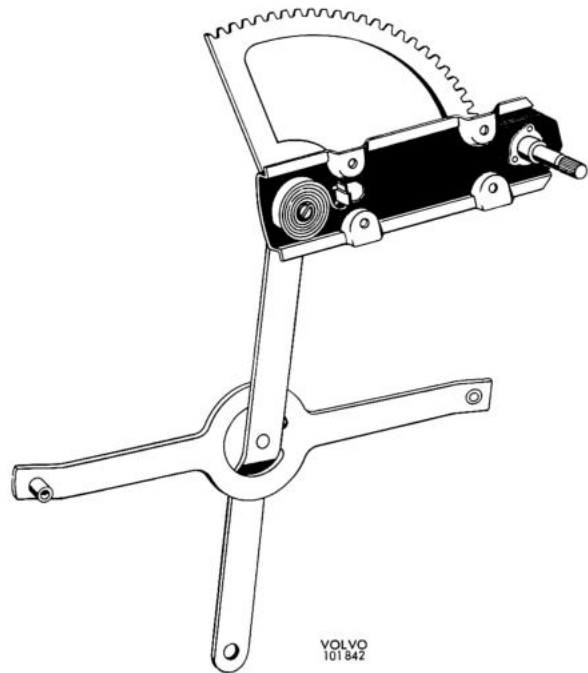

Fig. 8-17. Winding mechanism
6. Remove the attaching screws for the window winder, see Fig. 8-8, and remove it from the door, see Fig. 8-17.